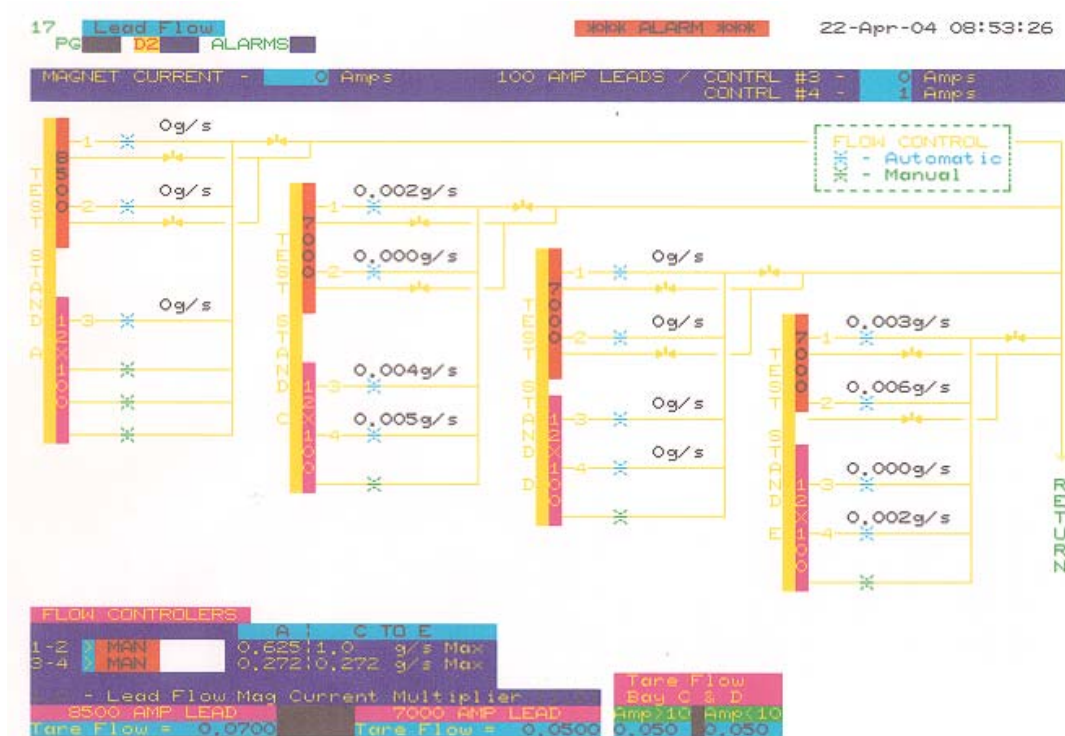

Figure 2. Display of control page D17 for Lead Flow Controllers in Bay D and E.
- 5.13 Installing Test and Measure will activate your LEAD FLOW CONTROLLERS in control page D17 as shown in Figure 2.